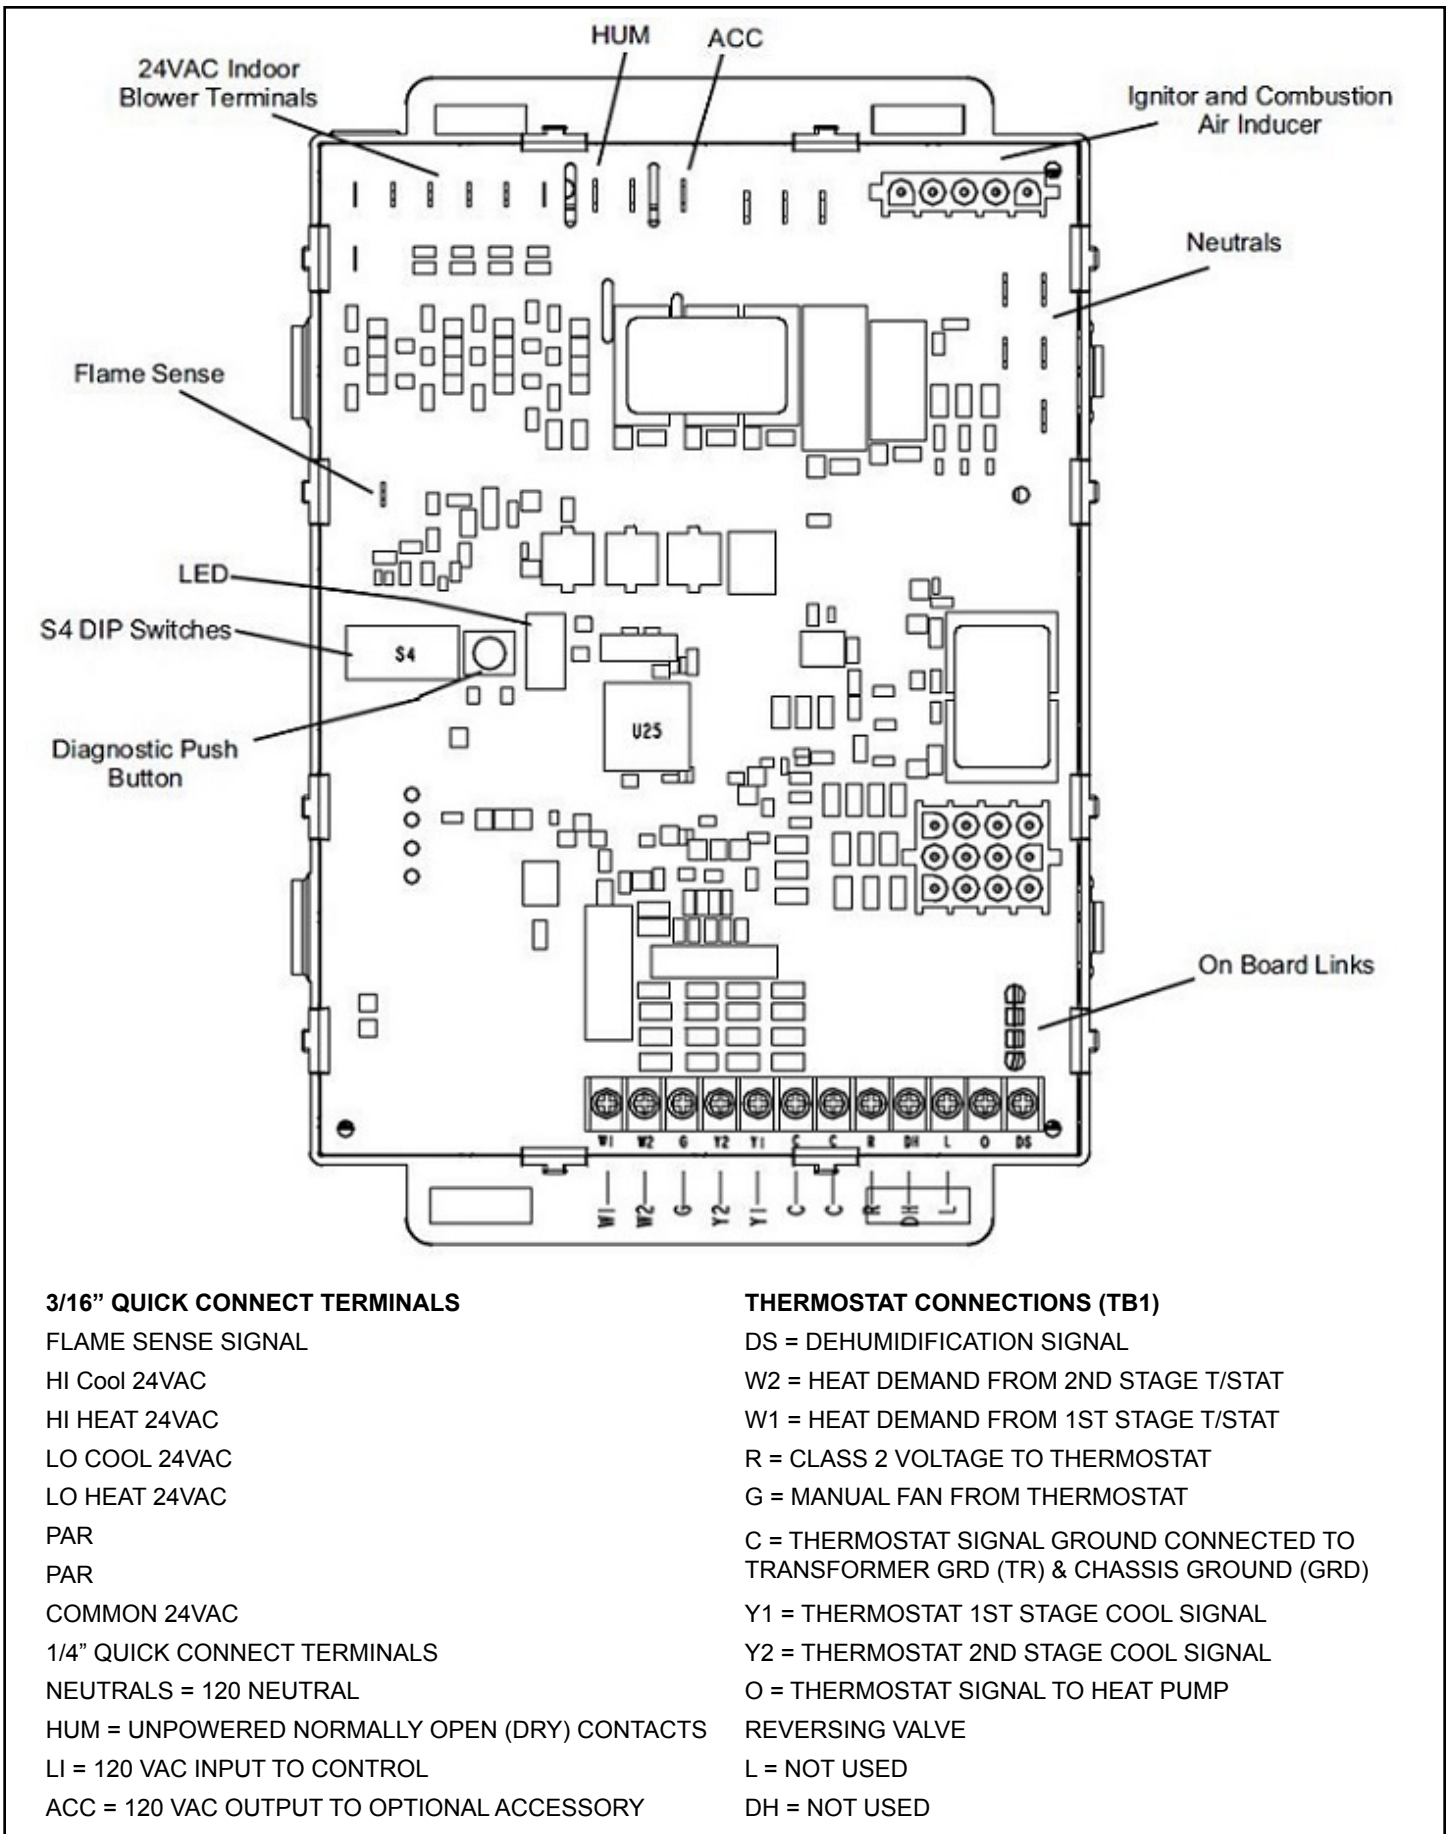

Figure 65. Control Board
7. One line voltage "ACC" 1/4" spade terminal is provided on the furnace integrated control. See Figure 65 for integrated control configuration. This terminal is energized when the indoor blower is operating. Any accessory rated up to one amp can be connected to this terminal with the neutral leg of the circuit being connected to one of the provided neutral terminals. If an accessory rated at greater than one amp is connected to this terminal, it is necessary to use an external relay.